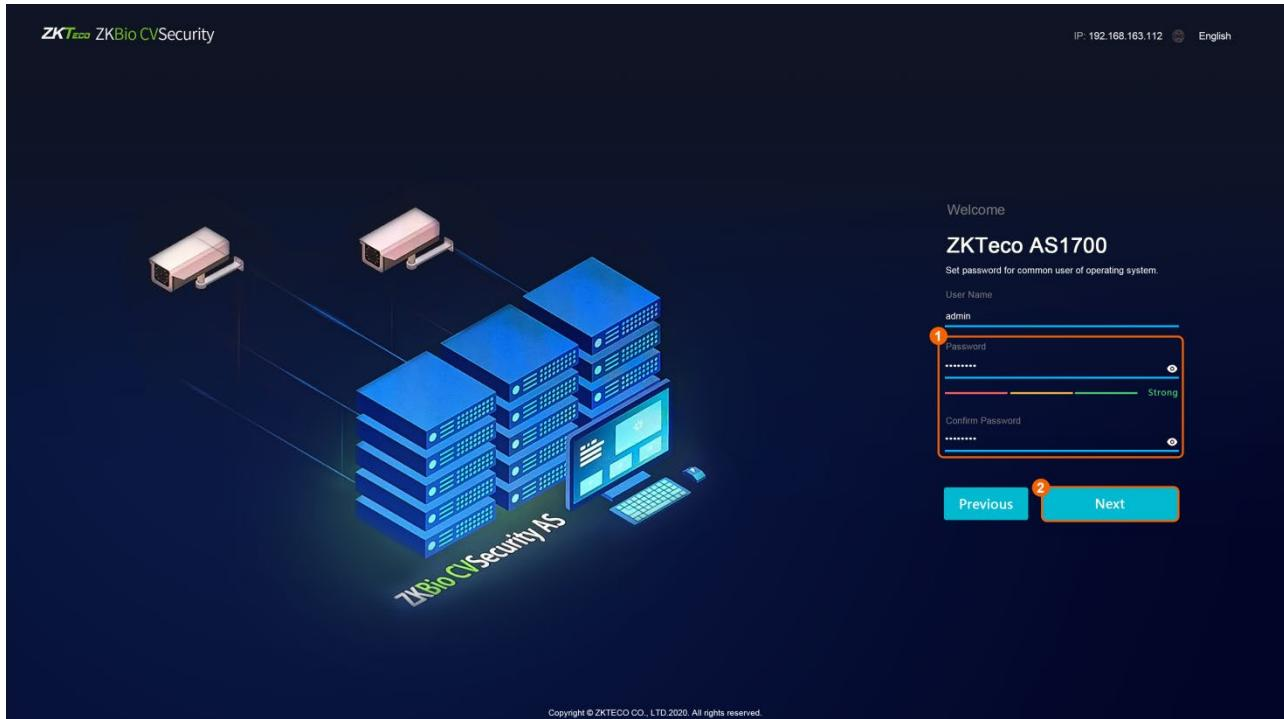

Figure 3-3 Setting the password of the admin user of the operating system.
- Set the password of the **admin** user of the operating system, as shown in the Figure 3-3.